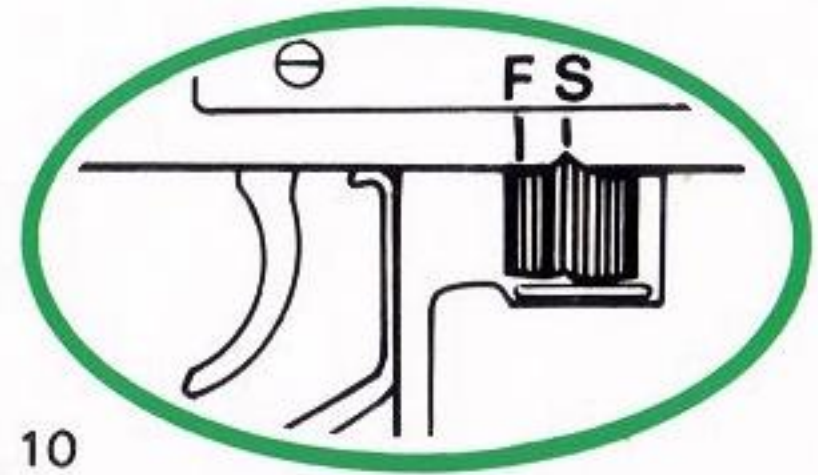

fig. 10
2. Set the fire selector on "S" (Safe). (fig. 10).